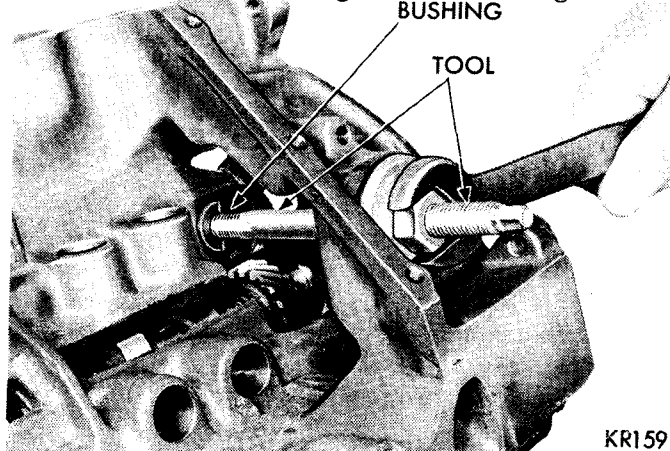

Fig. 26—Removing Distributor Drive Shaft
(1) Insert Tool C-3052 into the old bushing and thread down until a tight fit is obtained (Fig. 26).
(2) Hold remover screw and tighten nut until bushing is removed.